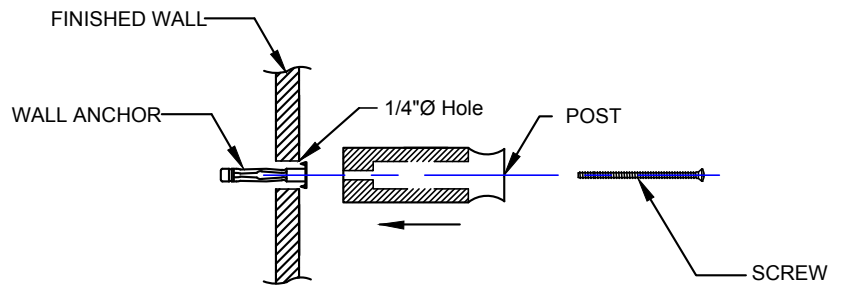

Figure 1
1. Fasten bottom wall post by putting screw through post and securing it to the bottom wall anchor. (Fig. 1)